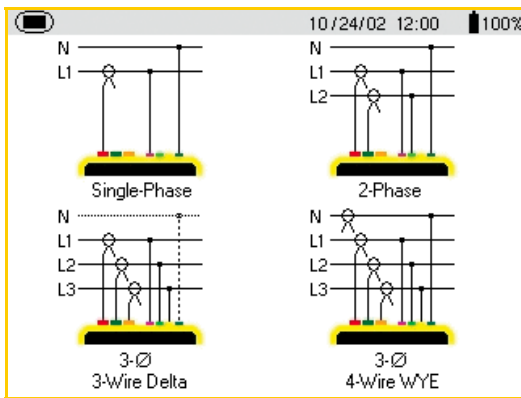
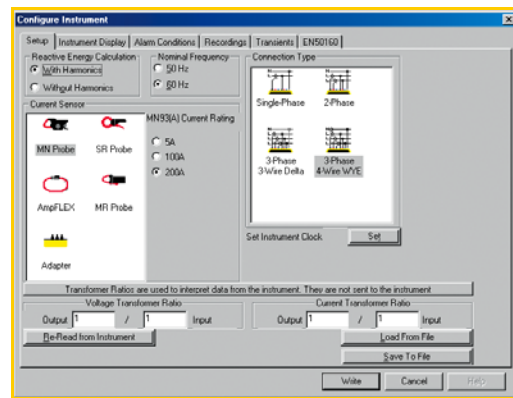

Figure 2. PowerPad™ setup screen
Figure 3. Dataview® setup screen
b) The user can depress the SETUP button , the top button on the left side, to configure the instrument (Figure 1 bullet 10). There are 11 options in the setup. One option to note is the Electrical Hookup. Use the arrow keys  (Figure 1, bullet 8) to scroll down and press the ENTER key  (Figure 1, bullet 9). You should see a screen similar to Figure 2. Figure 3 shows the example of the screen seen while configuring the instrument using the DataView® software.